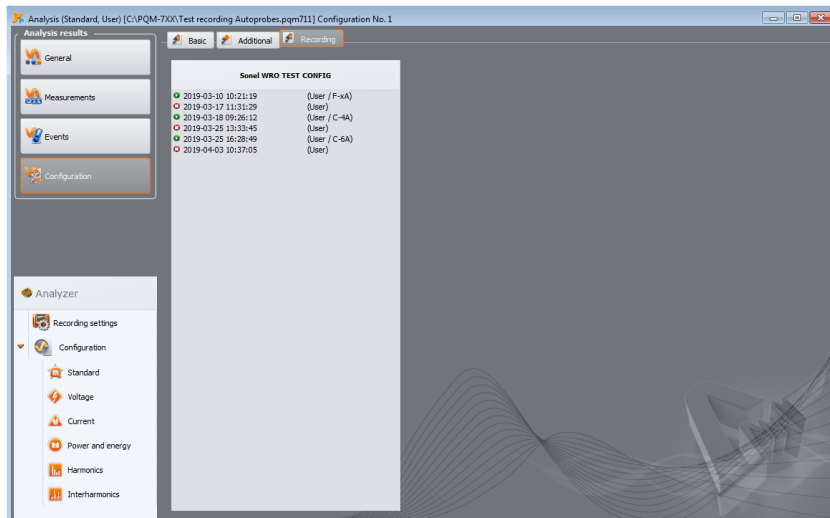

Fig. 75. Configuration view - list of the recording periods with the assigned current probes.
- all recording intervals with date/times and assigned probes (Fig. 75),